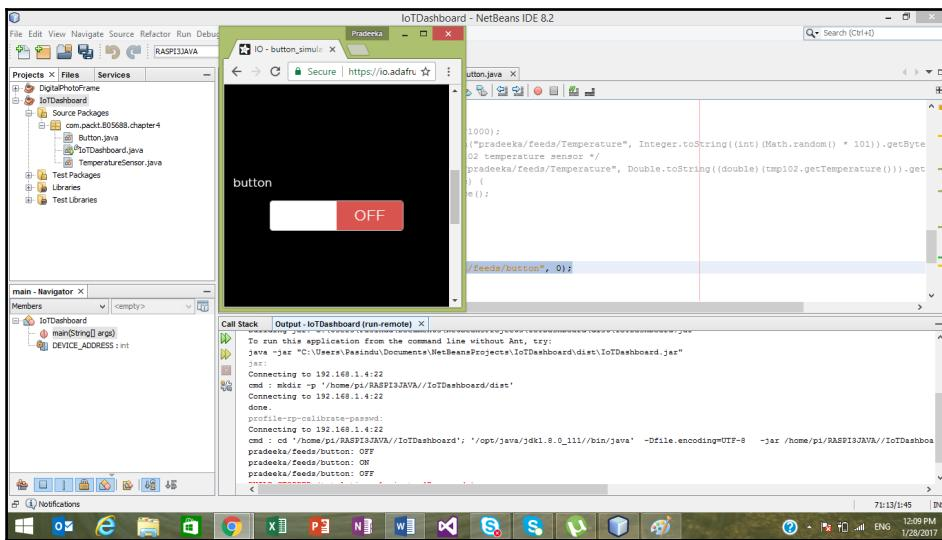

Figure 4-39: Toggle button in action
4. Build and run the program. Open the IoT dashboard and resize the browser window to see both the toggle button and the output window of the NetBeans IDE. Now click on the toggle button to change its state. The output window will immediately show the current state of the button (**ON** or **OFF**), as shown in Figure 4-39: